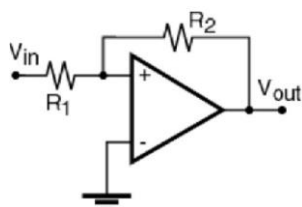

Figure 10: Schmitt Trigger
1. Construct the Schmitt trigger circuit in the above circuit diagram on the breadboard as shown in Figure 10. ( $R_1=1K$ ,  $R_2=10K$ )